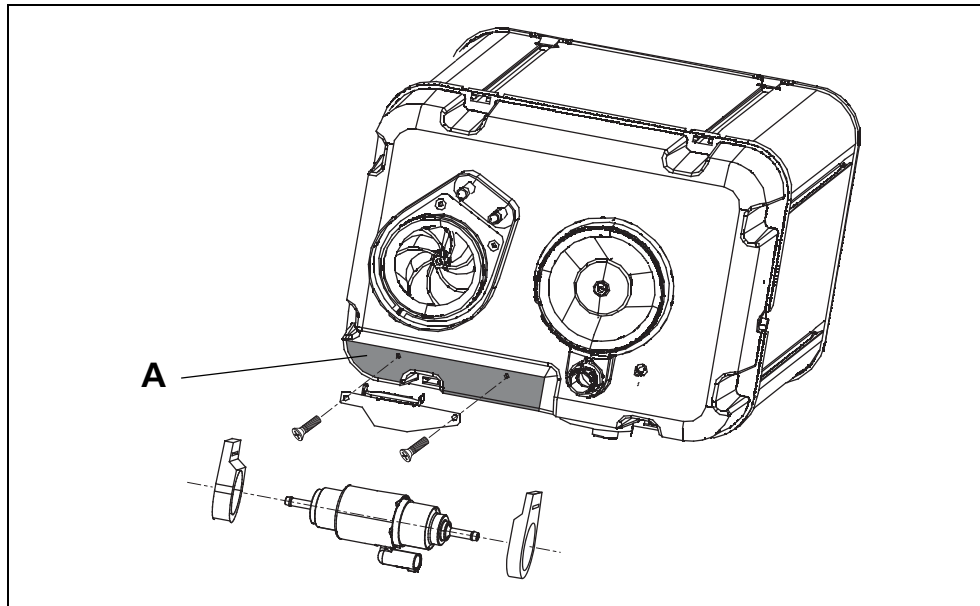

Fig. 27: Mounting location (A) for fuel pump on heater
Mounting the fuel pump on the heater (see Fig. 27, "Mounting location (A) for fuel pump on heater") is only allowed if the length of the fuel line's suction side is not more than 1.4 m.